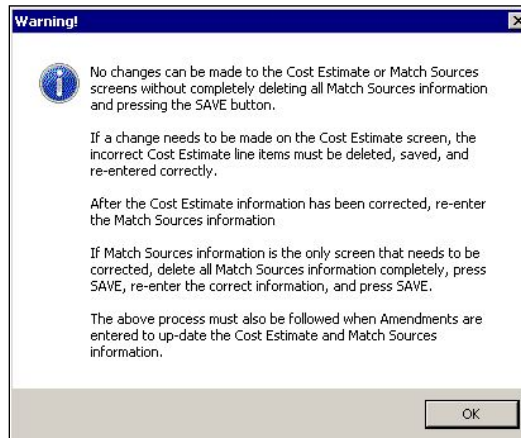

Figure 6-53: Warning About Cost Estimate or Match Sources Changes
1. Click the **Match Sources** tab. A warning message about making changes to Cost Estimate or Match Sources is displayed (Figure 6-53).